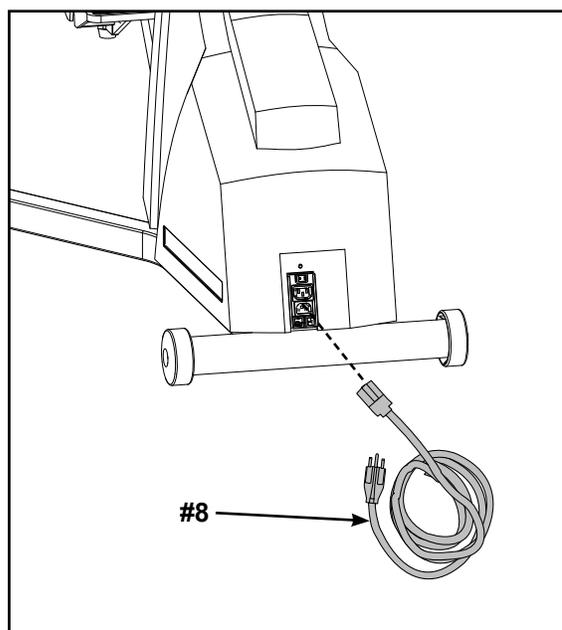

Figure 13
- A. Plug the power cord (#8) into the inlet near the front of the unit. **NOTE:** Do not plug the power cord into an outlet at this time. See Figure 13.